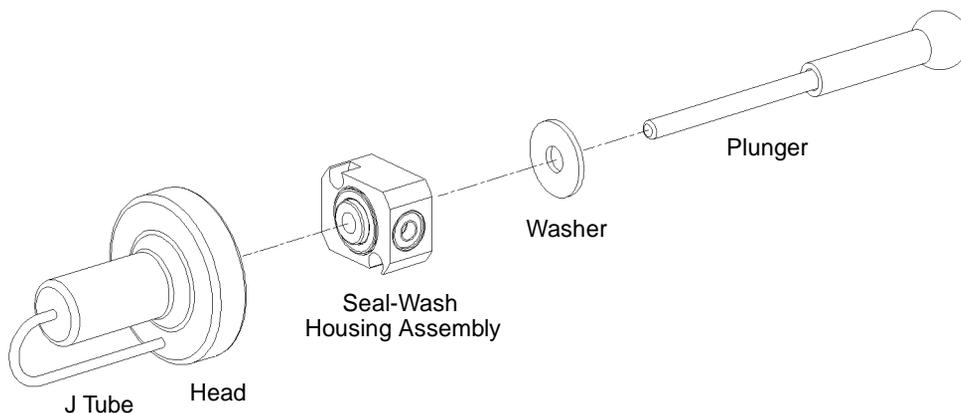

Figure 7-5 Plunger, Seal-Wash, and Head
5. Remove the head, seal wash assembly, and plunger as one unit (Figure 7-5).
7. Follow the directions on the screen to reinsert the head, seal wash housing, washer, and plunger assemblies. To avoid damaging the tube seals and to properly align the seal wash tubes with the seal wash housing, refer to steps **a** through **d** below. Also, make sure that the head alignment pin is properly oriented and that the “J” tube is facing down (Figure 7-5).
7. Reinstall the seal wash housing assembly washer (see Figure 7-5).
8. Slide the seal wash housing with washer onto the plunger, then insert the assembly onto the head (Figure 7-5).
properly align the seal wash tubes with the seal wash housing, refer to steps **a** through **d** below. Also, make sure that the head alignment pin is properly oriented and that the “J” tube is facing down (Figure 7-5).
2. Inspect the plunger for damage, excessive wear, or mobile-phase residue without separating it from the pump head and seal wash assembly (Figure 7-5). If the plunger seal has mobile-phase residue:
2. Follow the directions in the Head Removal and Replacement screen to reinsert the head, seal wash assembly, and plunger. To avoid damaging the tube seals and to properly align the seal wash tubes with the seal wash housing, refer to steps **a** through **d** below. Also, make sure that the head alignment pin is properly oriented and that the “J” tube is facing down (Figure 7-5).